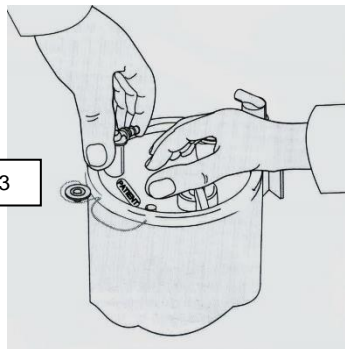

Fig. 3
OB-J FA jar (Fig. 3) is made of transparent plastic material (polypropylen). The jar includes pot (1), cover (2), the shut-off valve (3) and the 90° plastic pipe (4). The lid of the jar provides the direct inclusion of the protection filter.